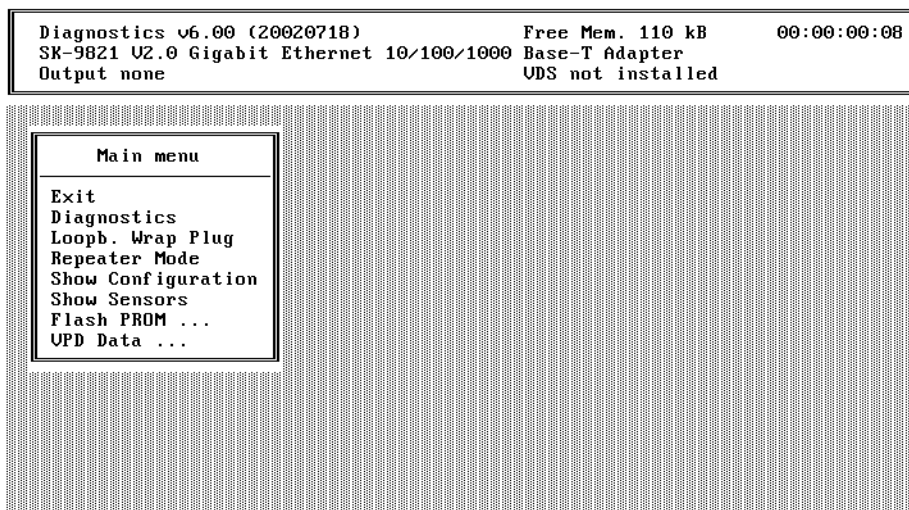

Figure 8. Diagnostics program, main menu
7. Select the appropriate item from the menu (see figure 8).